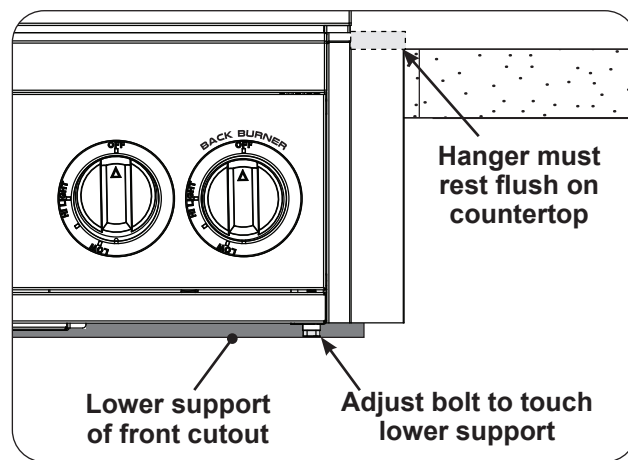

Fig. 28-1 Front support adjustment bolts
3. Rotate the front support adjustment bolts (up or down) until the grill hanger rests flush on the countertop, AND, the adjustment bolts are touching the supporting structure found at the bottom of the cutout (lower support). Use a 7/16" open-end wrench as needed. See Fig. 28-1.